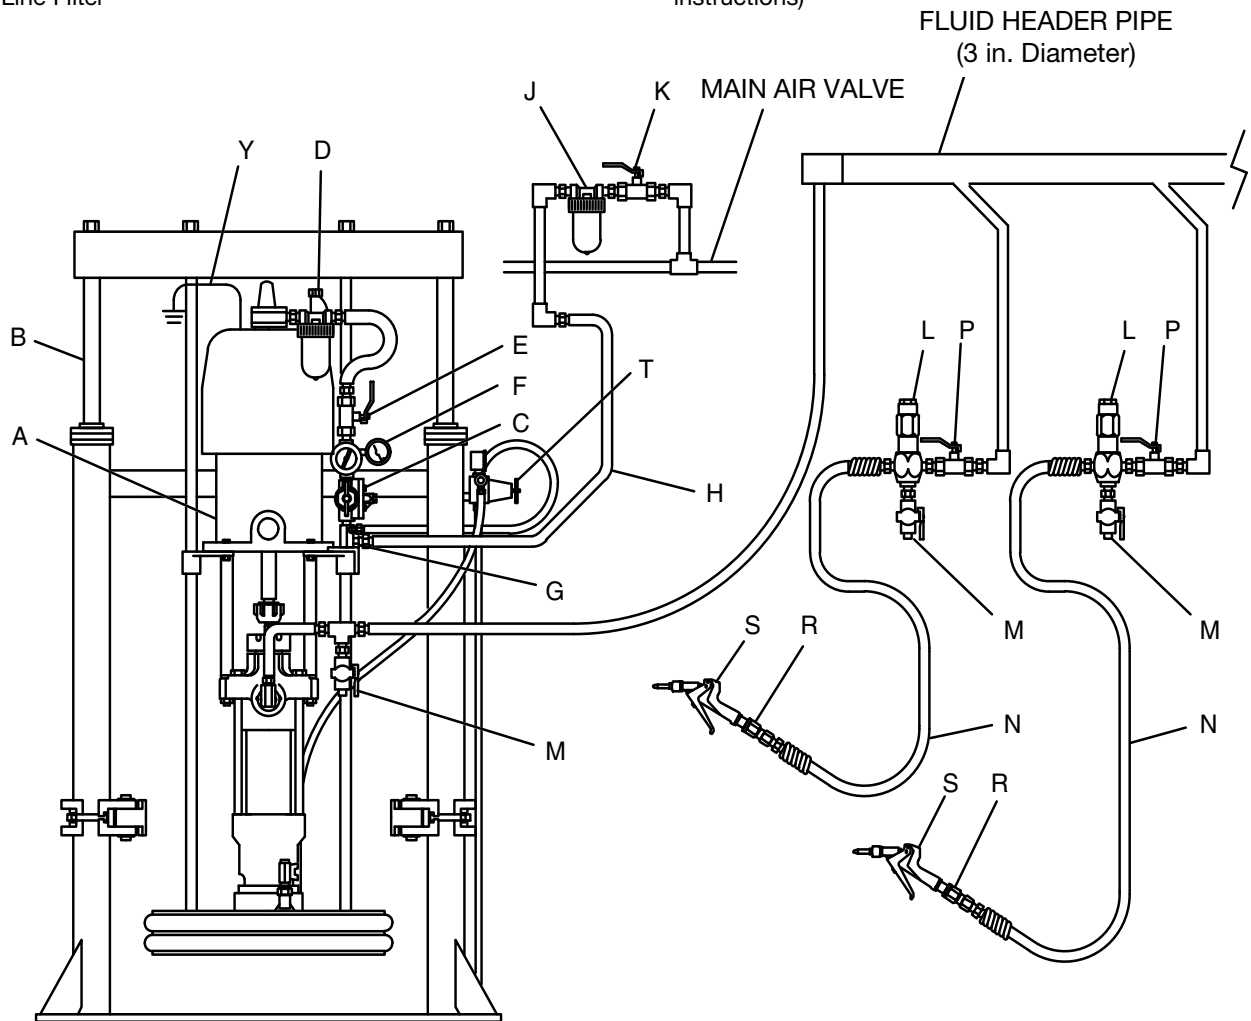

Fig. 3
The Typical Installation shown in Fig. 3 is only a guide for selecting and installing system components and accessories. Contact your Graco distributor for assistance in designing a system to suit your particular needs.
Mount the pump (A) to suit the type of installation planned. Fig. 3 on page 8 illustrates a ram-mounted pump in a multi-gun header system. Pump dimensions and the mounting hole layout are shown on pages 35 and 36.
Install the following accessories in the order shown in Fig. 3, using adapters as necessary:
Install the following accessories in the positions shown in Fig. 3, using adapters as necessary:
- Install a **fluid shutoff valve (P)** at each gun drop, to isolate the gun and fluid accessories for servicing.
- Install a **fluid drain valve (M)** near the pump fluid outlet, and at each gun station. The drain valves are required in your system to relieve fluid pressure in the displacement pump, hose and gun (see the **WARNING** at left). Drain valves at the gun stations may be mounted in the base of a **fluid regulator (L)**, using an adapter.
- **A fluid regulator (L)** controls fluid pressure to the gun/valve, and dampens pressure surges.
- **A gun or valve (S)** dispenses the fluid. The gun shown in Fig. 3 is a high pressure dispensing gun for highly viscous fluids.
- **A gun swivel (R)** allows freer gun movement.